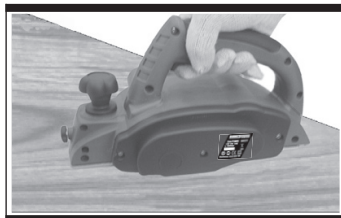

Fig 4
3. GENERAL PLANING OPERATION (see fig4)